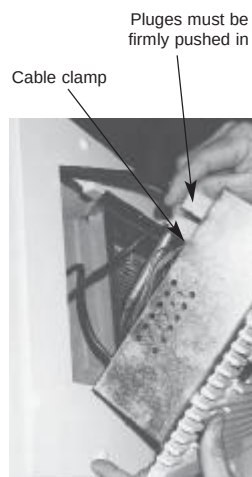

Figure 14
2. Plug in the Con/Set control cable to the back of the switch box (6 pin plug) & clamp it with cable clamp provided. Also plug in the A/H cable (9 pin). See fig.14.